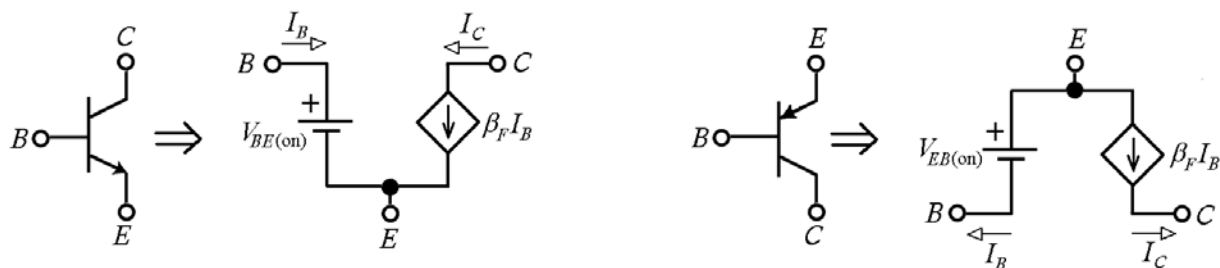

Fig. 4 – Large-signal BJT models in the *FA* region.
- In the *FA region* the BE port acts as a *battery*, namely, $V_{BE(\text{on})} \cong 0.7 \text{ V}$ for the *npn* BJT and $V_{EB(\text{on})} \cong 0.7 \text{ V}$ for the *pnp* BJT, while for both BJTs the CE port acts as a *dependent current source* $I_C = \beta_F I_B$. The two BJT models are shown in Fig. 4.